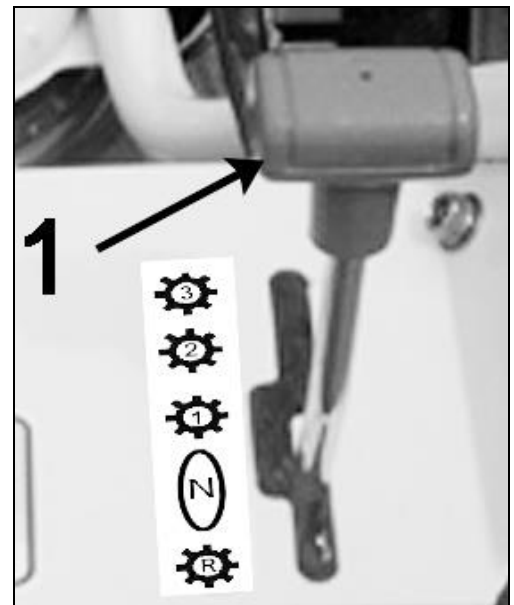

Figure 3
This lever allowed to change the travel speed from 1 (low speed) to 3 (high speed). Put the lever on "R" to go on reverse. (1, figure 3). (N) position is neutral.